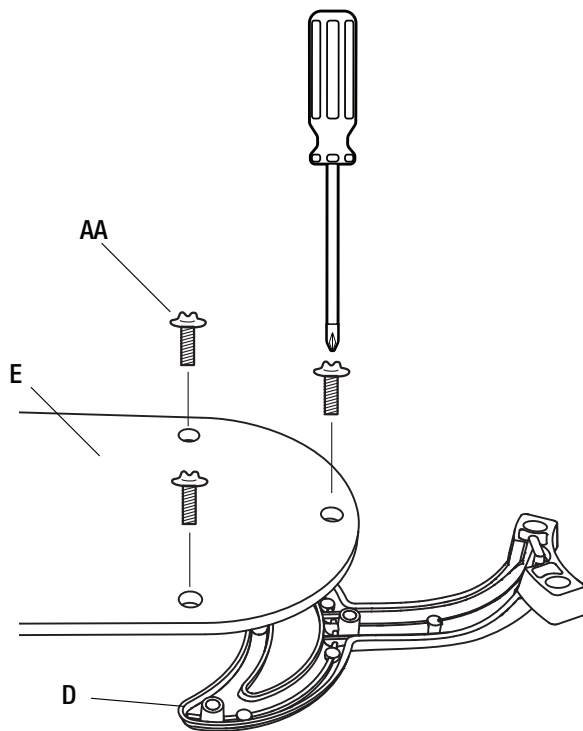

Figure 10
- Mount the blade holders (D) to the fan blades (E) using the screws (AA) provided – 3 per blade (Figure 10). Please note the rubber washers are pre-attached to the blade holder (D).